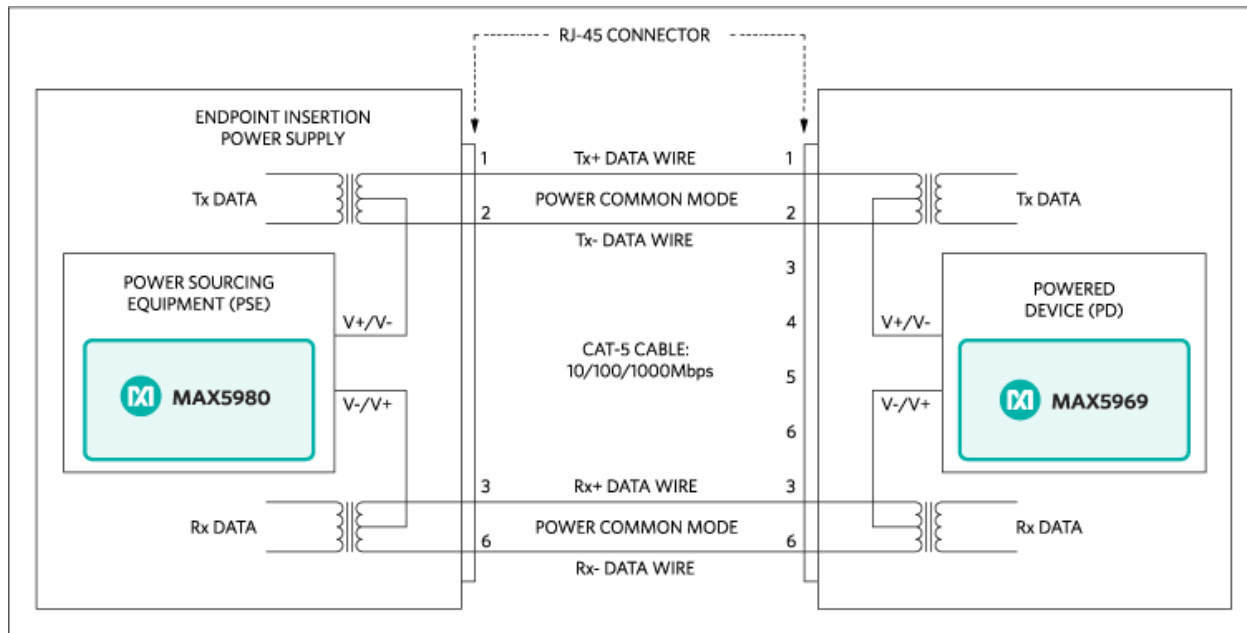

Figure 2. PoE endpoint insertion schematic for 10/100/1000Mbps Ethernet.
In a PoE endpoint insertion implementation, the PSE uses pairs 1-2 and 3-6 for power distribution (Figure 2). The power in an endpoint configuration is supplied as a common-mode bias (DC) on the cable pairs, while Ethernet data is transformer coupled and fully differential (AC). In this configuration, the power and data share the same pairs of cable. The polarity of the PSE outputs is not defined for endpoint applications. In endpoint configuration, the Ethernet Magnetics are specially designed to withstand the DC bias resulting from the power.